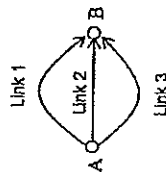

Figure Q3: Transportation Network
3. Figure Q3 shows the transportation network connecting node A to node B. The link travel time functions are as follows: